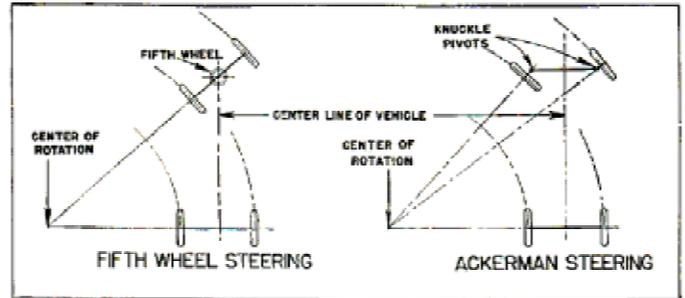

FIGURE 28.—Methods of steering.
35. Steering methods.—*a.* In order to steer a vehicle the wheels must be changed from their straight-ahead position. A “fifth wheel” which serves as a central pivot for the entire front axle was an early method of steering (fig. 28). This method serves for vehicles that are pulled, such as trailers and horse-drawn vehicles, but it is not practical for self-propelled motor vehicles.